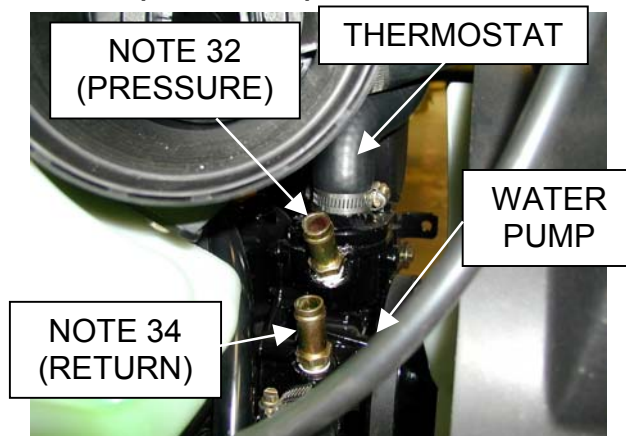
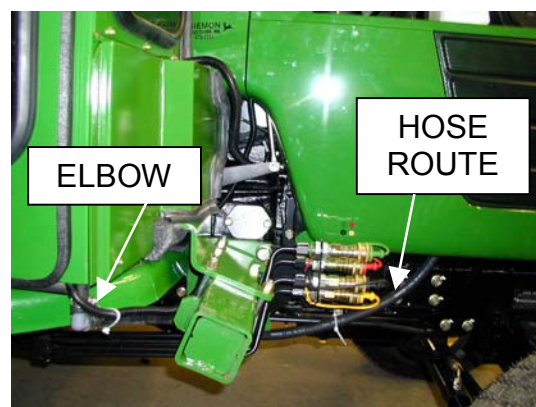

Figure 32
Figure 36
- 33) On models; (See Figure 32).
- Install (1) #3-17756, 3/8-19 BSPT to 5/8" hose nipple.
- Install (1) #3-12119, 3/8-18 NPT to 5/8" hose nipple.
- 35) On models; (See Figure 32).
- 36) Locate the heater hose, (2) 90-degree plastic elbows and (6) 5/8" hose clamps that come with the kit.
- 37) Install (1) elbow #3-10282, measure and cut 5/8" heater hose from right side of cab to the hot-pressure nipple on the top of the water pump, just installed. See Figure 36.